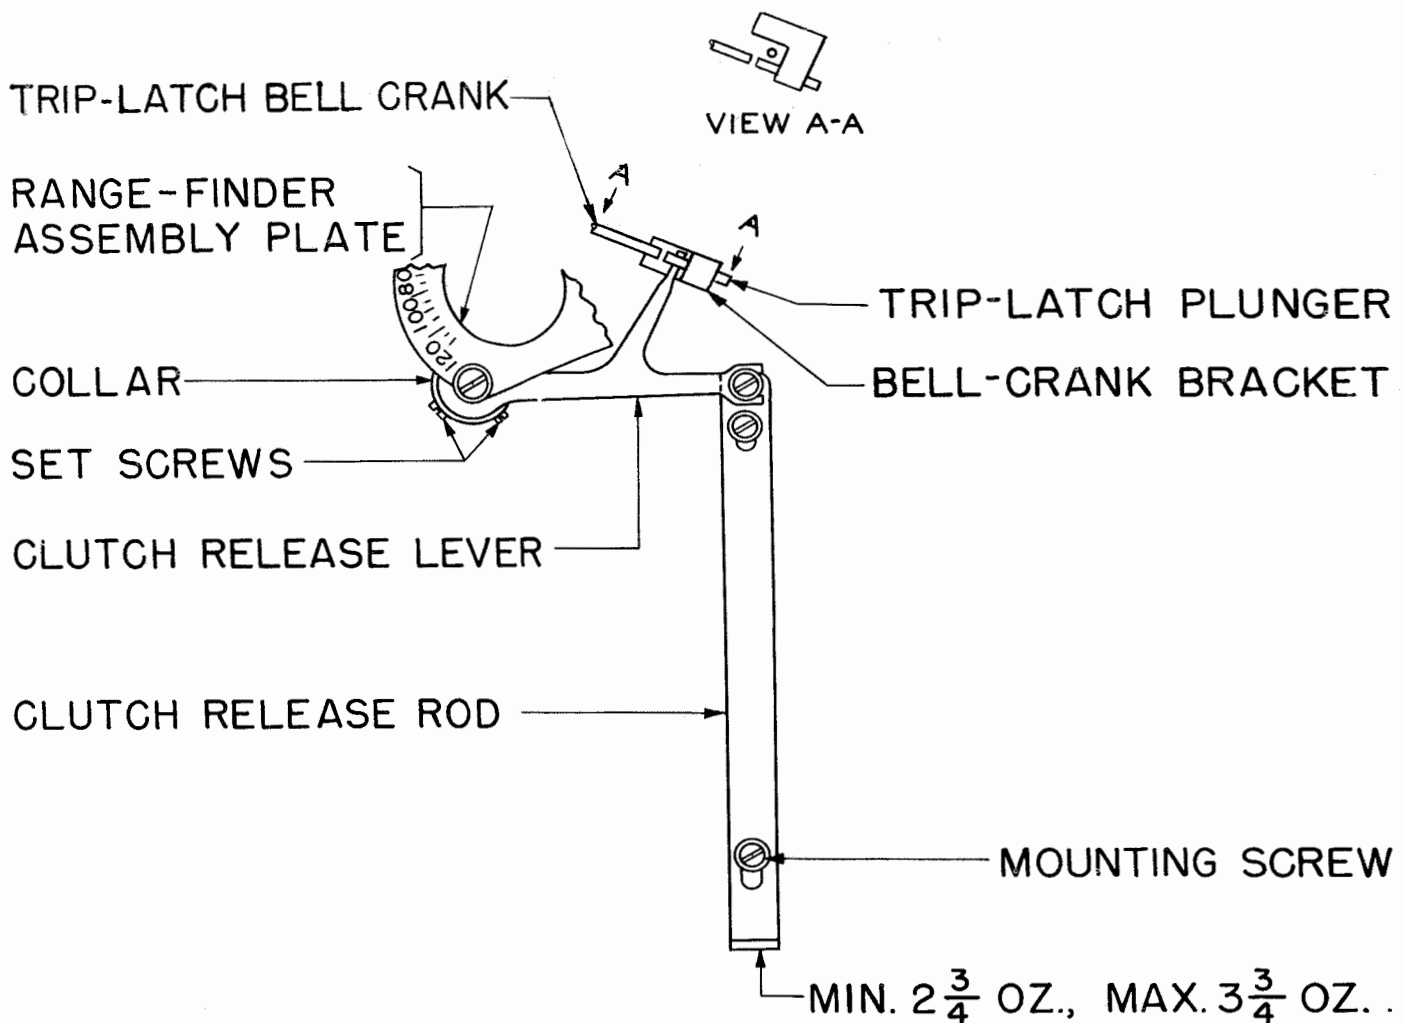

Figure 3
2.06 Tape-out Mechanism (Manual): The round tip of the clutch-release lever shall be approximately midway between the triplatch plunger and the bracket. The clutch-release lever shall not limit the upper range movement of the indicator arm on the range-finder scale. See Figure 3.
2.07 Clutch-release Rod shall slide freely on its mounting screws. See Figure 3.
2.08 Clutch-release-rod Spring: It shall require a push as indicated in Figure 3 to start the clutch-release rod moving.